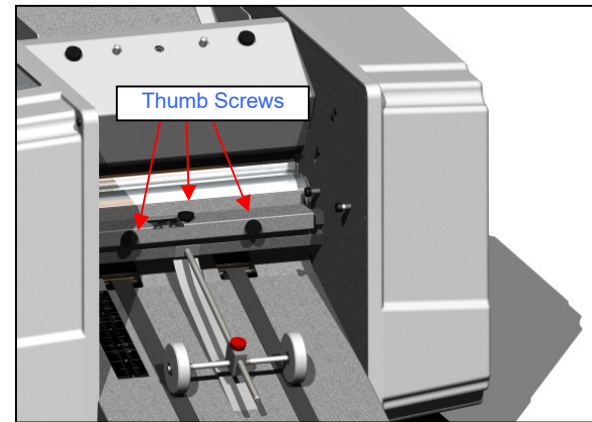

Figure 12: Roll Wiper Assembly
2. Remove the three thumb screws holding the **roll wiper assembly** and remove it from the machine. [See Figure 12]